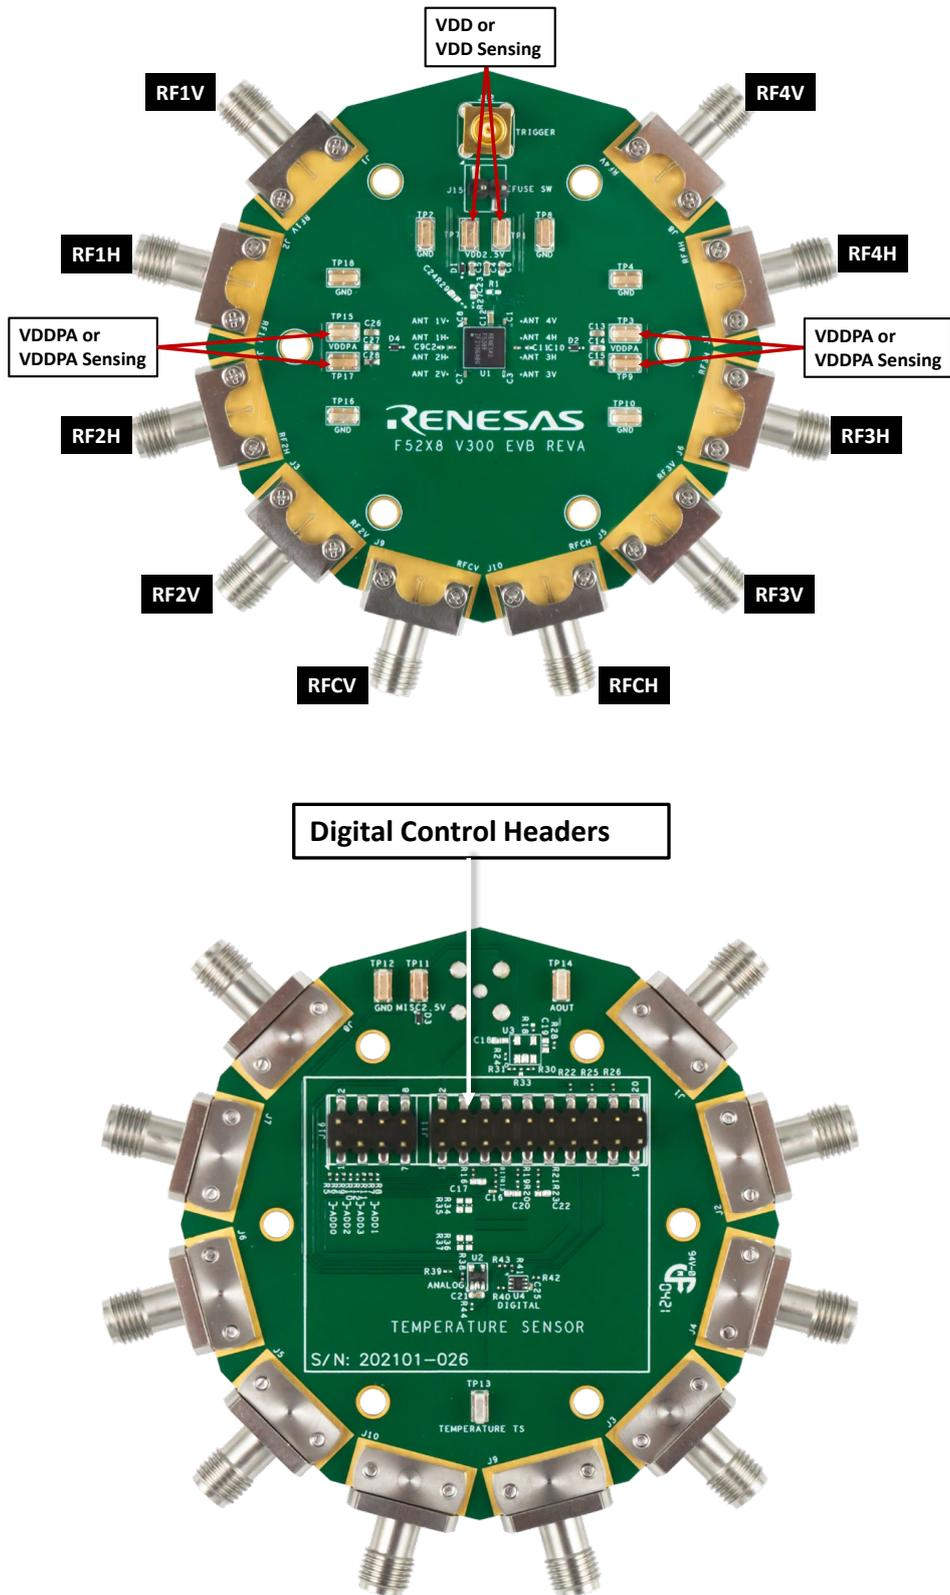
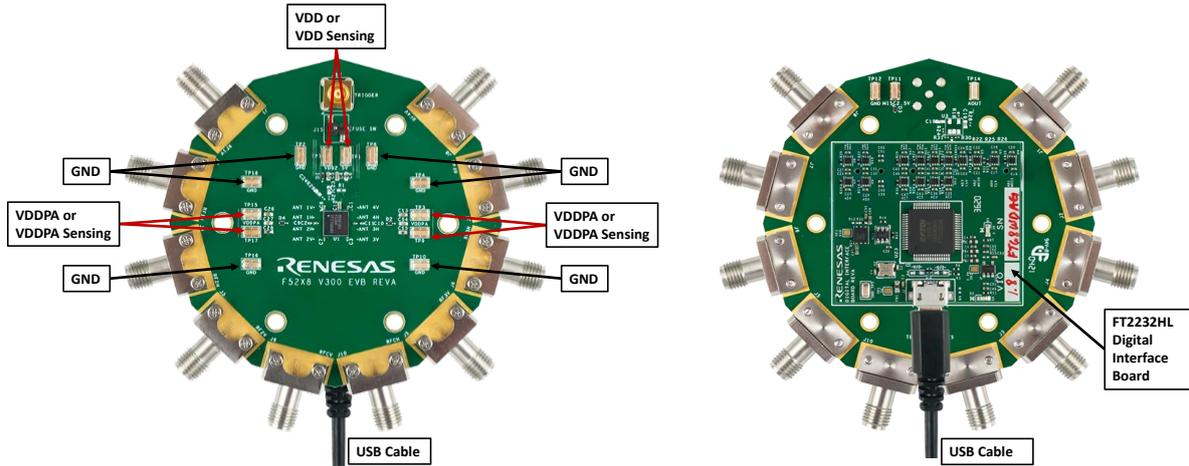

Figure 2. F5268/F5288 Evaluation Board – Top and Bottom
Figure 4. EVS Hardware Setup – Top and Bottom
Figure 2 identifies the location of the power supply, digital control headers, and RF I/O ports.
- It is recommended to use a 4-wire remote sensing power supply for VDD and VDDPA when making any measurements for correlation with datasheet parameters. Removing all voltage drop introduced by the conductors and connectors is critical to achieving the datasheet specified performance. TP1 (+)/TP8 (-) and TP7 (+)/TP2 (-) on the EVB are provided to make connections as part of a 4-wire VDD connection to the power supply with standard lab test clips. TP3 (+)/TP4 (-), TP9 (+)/TP10 (-), TP15 (+)/TP18 (-), and TP17 (+)/TP16 (-) on the EVB are also provided to make connections as part of a 4-wire VDDPA connection to the power supply with standard lab test clips (see Figure 2 or Figure 4).
Connect the EVS as displayed in Figure 4 using power supply cables with test clips and the provided USB-to-Micro USB cable. The digital interface board is attached to the back of the F5268/F5288 EVB. The typical VDD and VDDPA power supplies are 2.5V. VDD and VDDPA power supplies can be combined to a single power supply if a higher PA supply voltage is not needed. For full recommended power supply operating voltages, see the specific device datasheet.